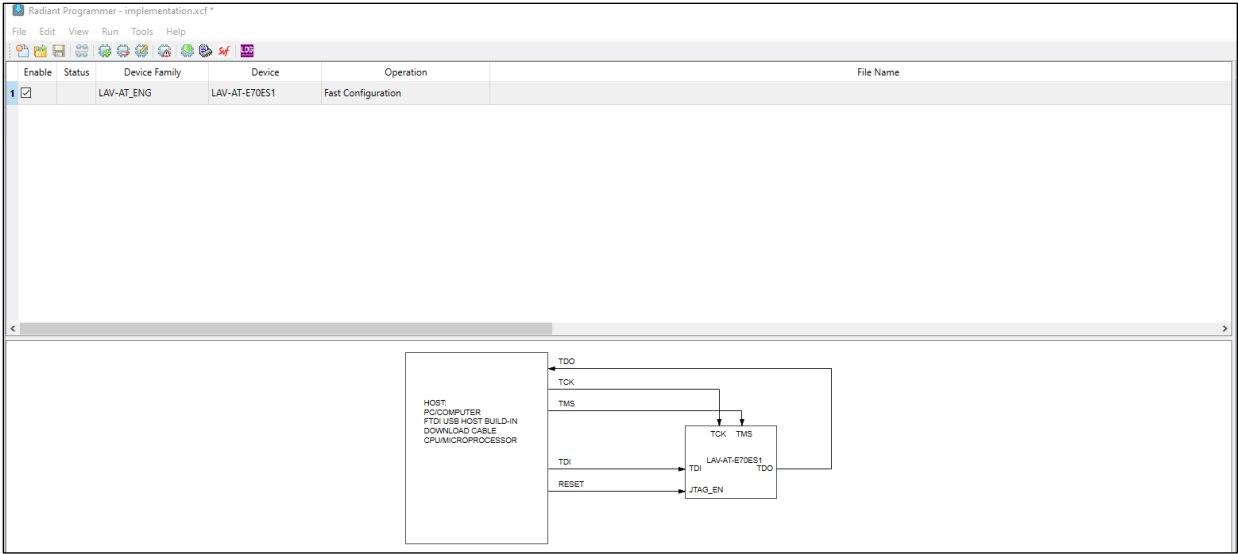

Figure 4.21. Lattice Programmer Settings
3. Select the generated bit file inside the implementation as shown in Figure 4.21.
Opening and Running the Project	- Added step 3 and updated step 4 in the Opening the Project section. - In the Testbench Setup for Simulation section: - Removed the previous step 3, which is to comment out the FAMILY, RX_TYPE, NUM_RX_LANE, RX_GEAR, LAV_AT, ap6a00b, and LAV_AT_500E parameter. - Replaced the Automatic White Balance IP information with the Video Frame Buffer IP in the things to consider list. - In the Running Functional Simulation section: - Updated Figure 4.10. Simulation Wizard and its caption. - Updated step 3. - Updated Figure 4.12. Run Simulation Value of 0 to Run All Simulations. - Added steps 8–11. - Removed the 66292000 ERROR and small hold timing violations descriptions in the Generating the Bit File section. - In the Uploading the .bit File and Programming the Board section: - Updated the Device Family and Device settings in step 2. - Updated Figure 4.21. Lattice Programmer Settings. - Removed the previous step 5, which is on the checking firmware output window.